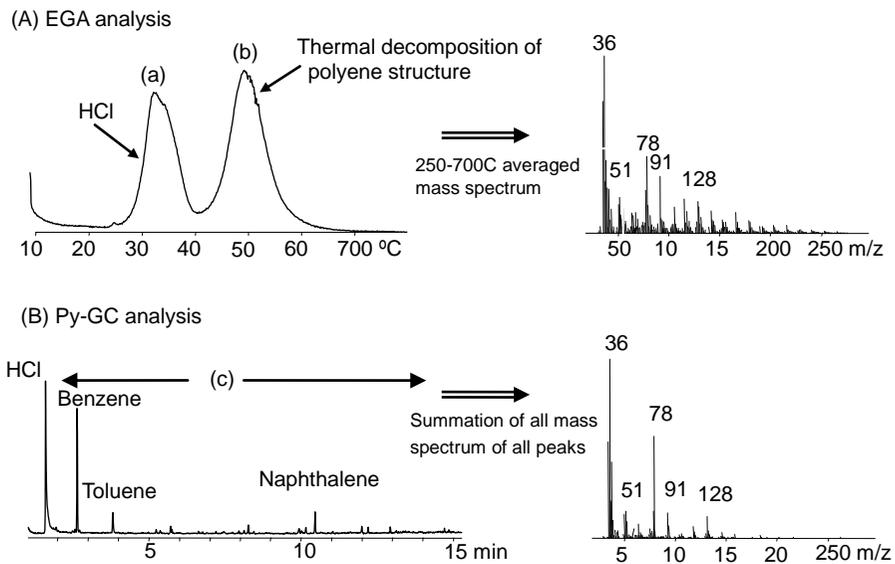

Fig. 4-5 Results of the analysis of PVC by EGA and Py-GC
As shown in Fig. 4-5 (A), the EGA thermogram of PVC contains two broad peaks that are due to the elimination of hydrogen chloride at low temperature, and thermal decomposition of the main polymeric chain in high temperature. On the other hand, the pyrogram obtained by PyGC shown in Fig. 4-5 (B) provides information on the polymer structure. As shown above, these two data sets are complementary and when combined facilitate the qualitative analysis of the PVC sample. This is an example where spectra stored in the EGA-MS and PyGC-MS libraries are almost identical.